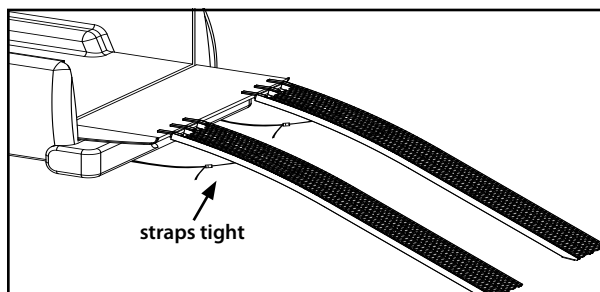

Figure 2
1. On level ground, rest both ramps on the tailgate. **SEE FIGURE 2.** Be sure ramps are centered on tailgate and aligned correctly to your 4-wheeled ATV or lawn tractor's wheel width.